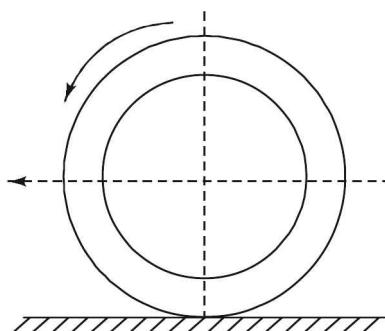

FIGURE 7.6 Rolling wheel on ground: Rolling pair.
- (d) *Rolling pair*: A rolling pair (Figure 7.6) consists of two links which are connected in such a way that one is constrained to roll on other which is fixed. The examples of rolling pairs are: (i) a ball and roller bearing and (ii) a wheel rolling on a flat surface.